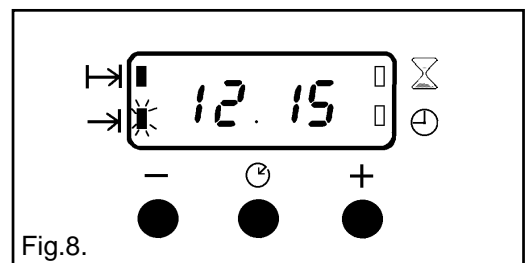

Fig.8.
- v) To set the 'End Time'. Press the Selector Control button until the 'End Time' indicator neon (⌚) flashes. Press the increase control (+) until the required stop time is displayed, e.g. 12.15 p.m. as Fig. 8. If necessary press the decrease control (-) until the correct time interval is achieved.